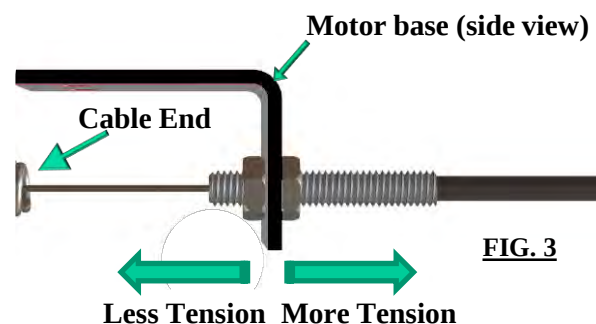

FIG. 3
2. Adjust both nuts in the direction as indicated in FIG 3 to move the CABLE HOUSING and set the desired tension.